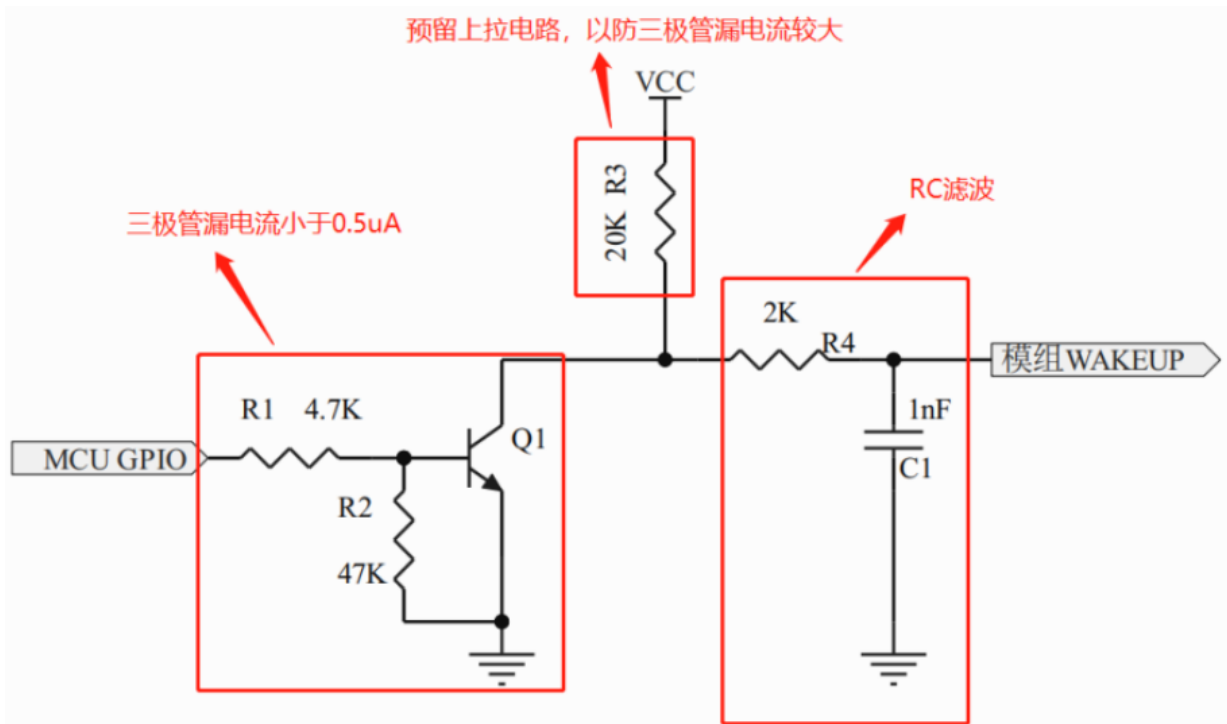

Figure 13 The WAKEUP pin reference circuit
- 1) If the user connects the AT serial port RXD with WAKEUP outside the module, and the WAKEUP also enables the wake up function (the RXD of module serial port 1 itself has WAKEUP function), then the module RXD cannot use the triode level conversion circuit, otherwise there will be abnormal wake up and dormancy. The RXD pin of NB chip has an anti-inverted design, and the MCU TXD voltage range can be solved by the RXD direct connection with the module (shown in Figure 13) within 1.8~3.6V.